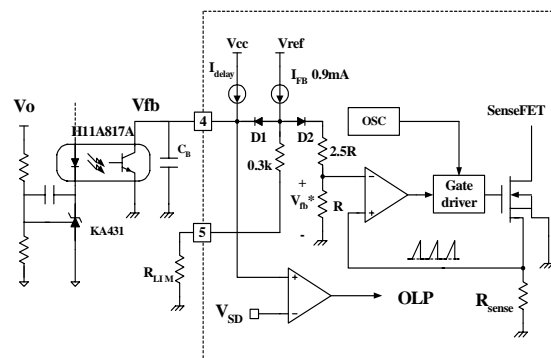

Figure 6. Pulse width modulation (PWM) circuit
2. Feedback Control : FSCM0565R employs current mode control, as shown in Figure 6. An opto-coupler (such as the H11A817A) and shunt regulator (such as the KA431) are typically used to implement the feedback network. Comparing the feedback voltage with the voltage across the Rsense resistor makes it possible to control the switching duty cycle. When the reference pin voltage of the KA431 exceeds the internal reference voltage of 2.5V, the H11A817A LED current increases, thus pulling down the feedback voltage and reducing the duty cycle. This event typically happens when the input voltage is increased or the output load is decreased.
2.1 Pulse-by-pulse current limit: Because current mode control is employed, the peak current through the Sense FET is determined by the inverting input of PWM comparator (V_{fb}^*) as shown in Figure 6. When the current through the opto transistor is zero and the current limit pin (#5) is left floating, the feedback current source (I_{FB}) of 0.9mA flows only through the internal resistor ($R+2.5R=2.8k$). In this case, the cathode voltage of diode D2 and the peak drain current have maximum values of 2.5V and 2.5A, respectively. The pulse-by-pulse current limit can be adjusted using a resistor to GND on current limit pin (#5). The current limit level using an external resistor (R_{LIM}) is given by